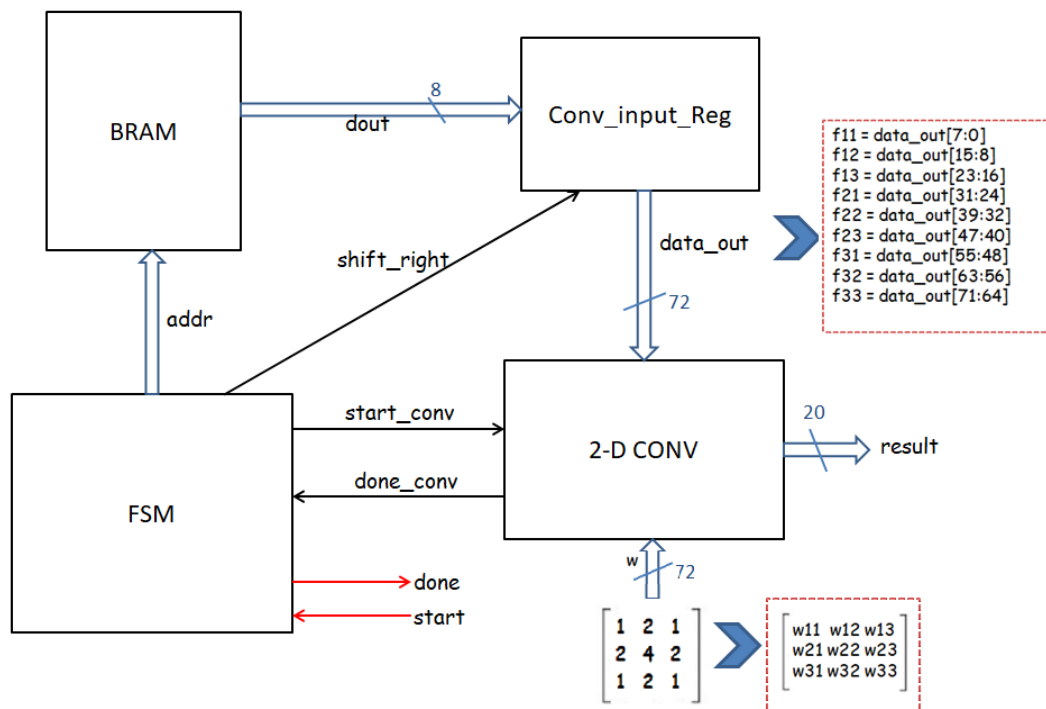

Figure 1: Top level schematic of the image processing system.
- An image processing system with the top level schematic given at Figure 1 will be realized in the scope of this experiment.
- Set the module inputs and outputs as seen in Figure 1. Declare outputs as regs.
- When all submodule designs are completed, the system must be gathered up in a top level module as seen at Figure 1. Create a new Verilog source file named "TOP.v" and instantiate all the blocks seen at Figure 1 here.